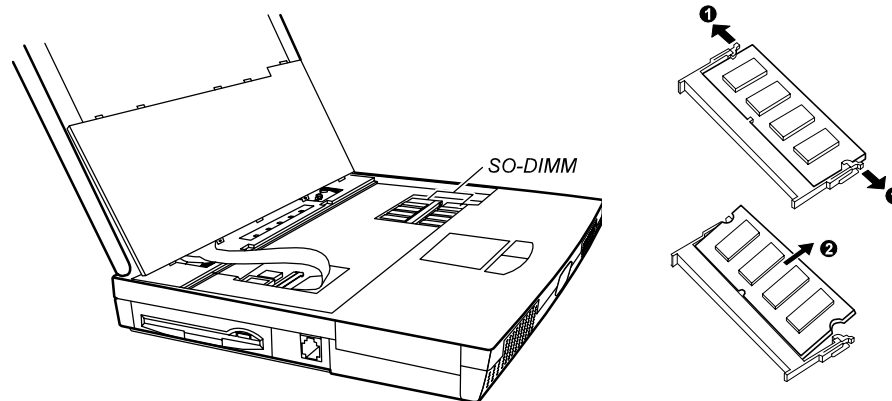

FIGURE 7-21. REMOING THE SO-DIMM
1. TO INSTALL THE SO-DIMM, ALIGN THE SO-DIMM NOTCHED PART WITH THE SOCKET CORRESPONDING PART AND FIRMLY INSERT THE SO-DIMM INTO THE SOCKET AT A ANGLE. THEN PUSH DOWN UNTIL THE RETAINING CLIPS LOCK THE SO-DIMM INTO POSITION. (REFER TO FIGURE 7-21 EARLIER).